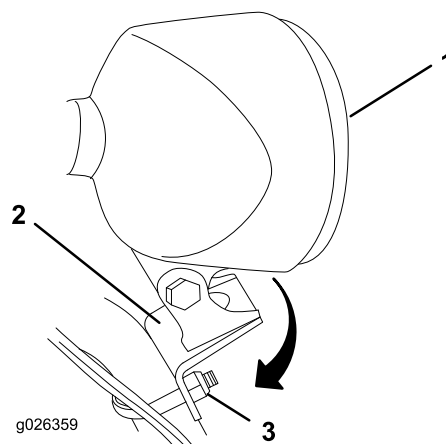

Figure 10
1. Loosen the nuts that hold the headlight bracket onto the right side of the handle (Figure 10).
2. Rotate the headlight bracket to the right 90 degrees (Figure 10) and tighten the nuts.